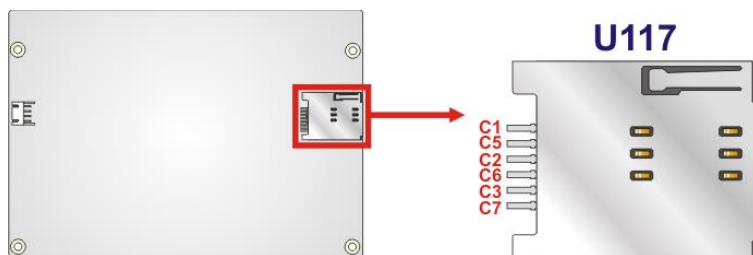

Figure 3-9: SIM Slot Location
- CN Location:** See **Figure 3-9**